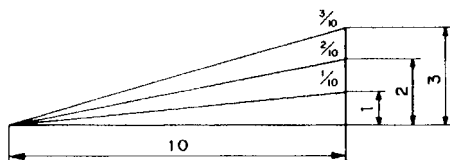

Fig. 25
- (4) The gradient, which is the ratio of the height to the base of the triangular section to be removed, may be used for setting the miter scale instead of the cutting angle, if desired (see Fig. 25).